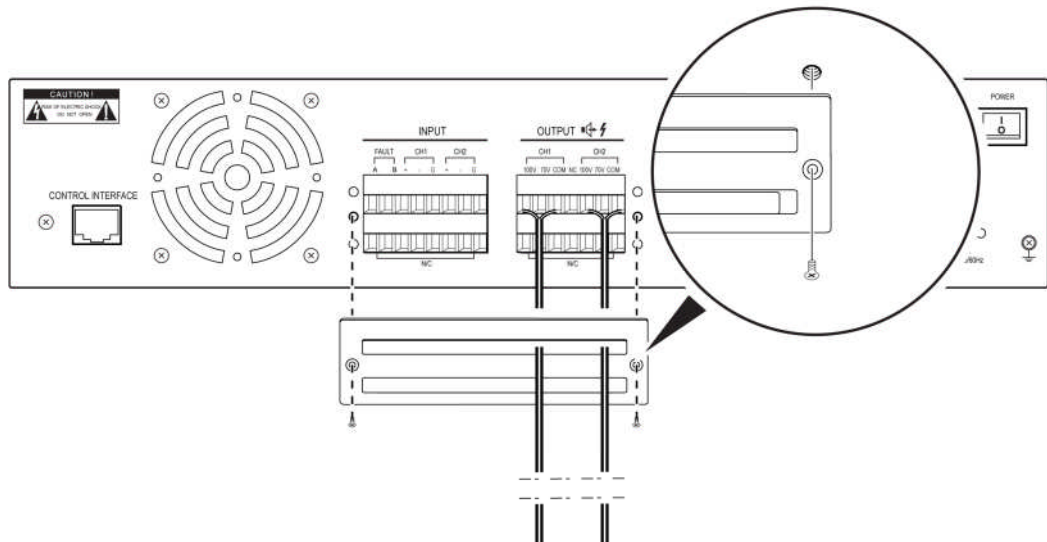

Figure 16 Schematic Diagram of the Protective Audio Input Terminal Cover
- g. Cover the power amplifier terminal with the protective terminal cover and tighten the screws, as shown in Figure 16. This same operation applies to the DCS terminal and related protective cover.